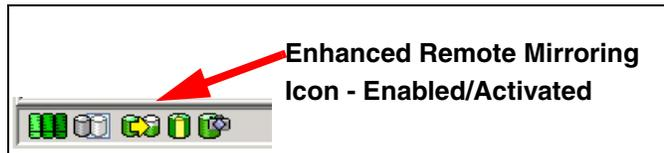

Figure 8-26 Enhanced Remote Mirroring feature icon: Enabled/activated
7. The Enhanced Remote Mirroring status icon at the lower left of the Subsystem Management window shows enabled/activated (Figure 8-26).